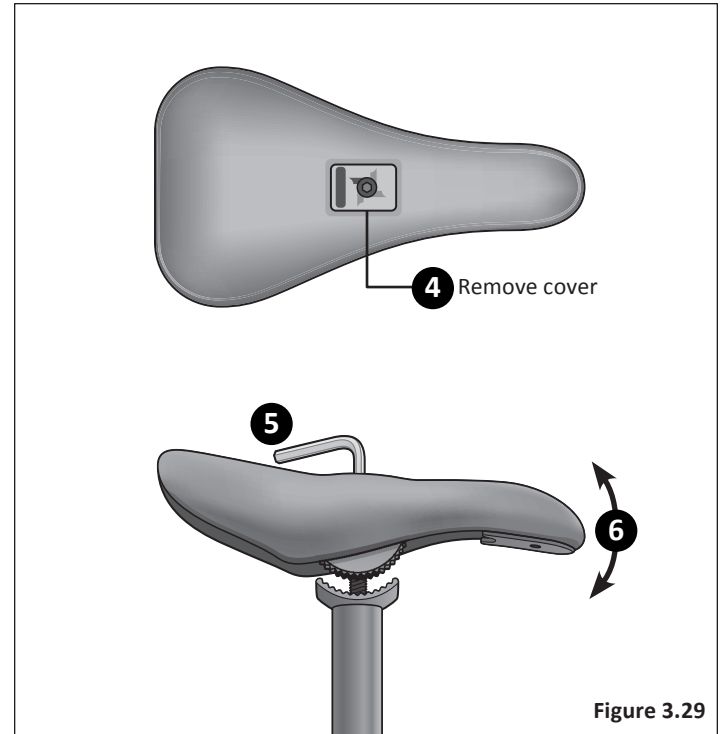

Figure 3.29
- 1 Using a 5 mm Allen wrench, loosen the seat clamp bolt and insert the seat post into the seat tube. **Figure 3.29**